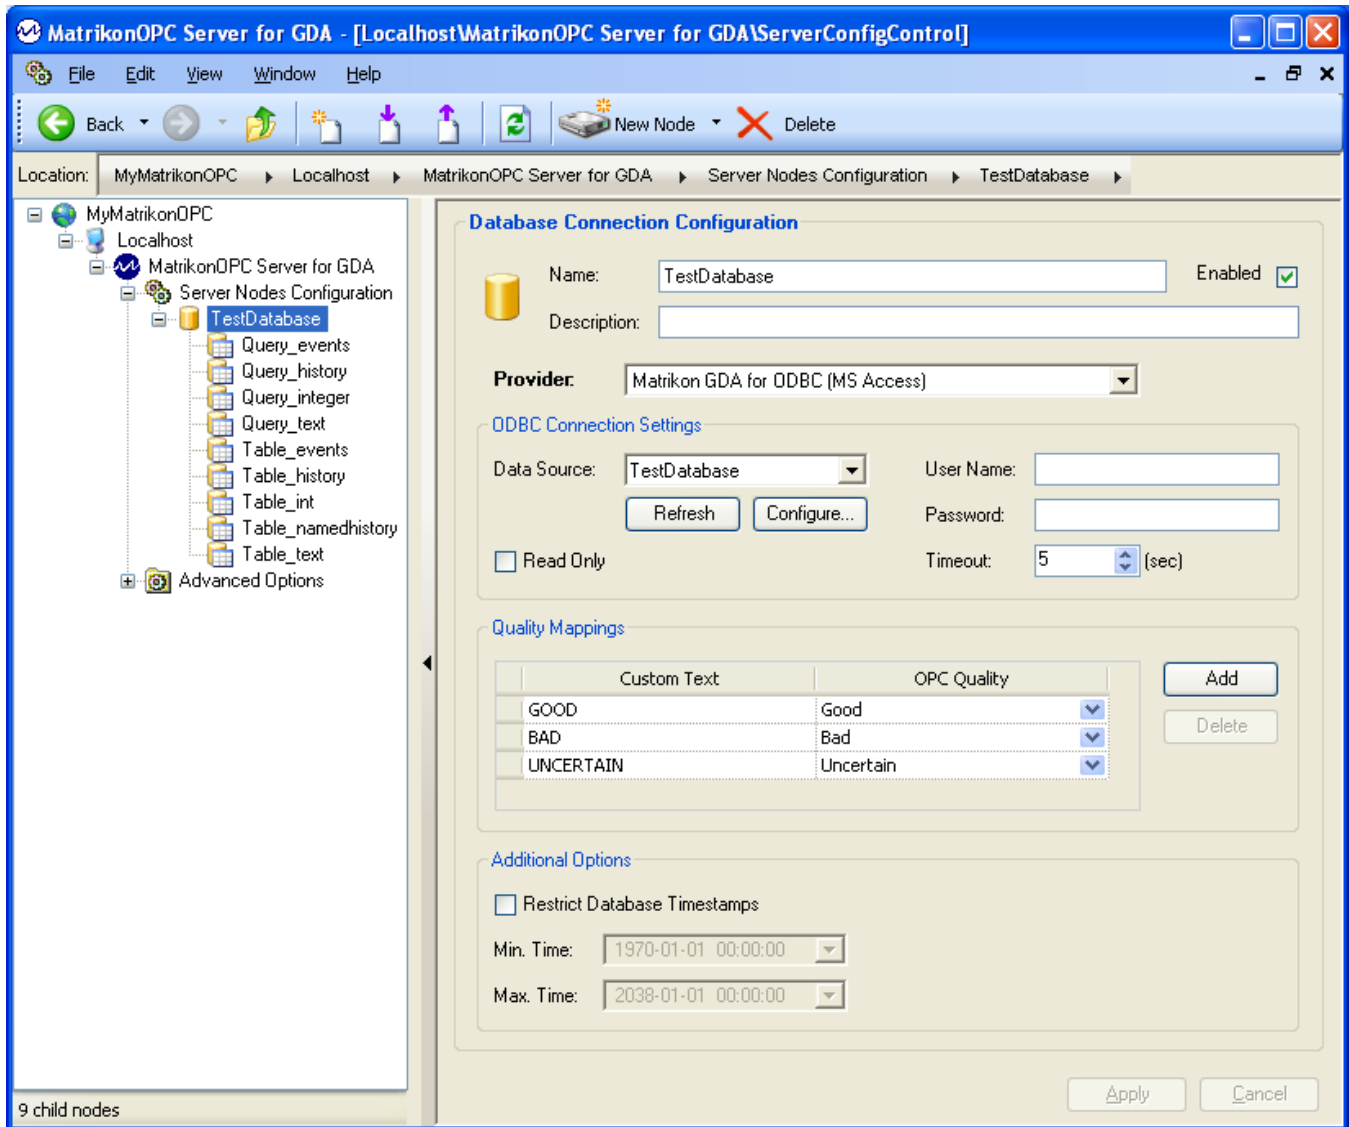

Figure 102 - Sample Configuration File Loaded
9. The **.XML** file is loaded, the configuration screen should appear as it does in Figure 102 - Sample Configuration File LoadedFigure 101.